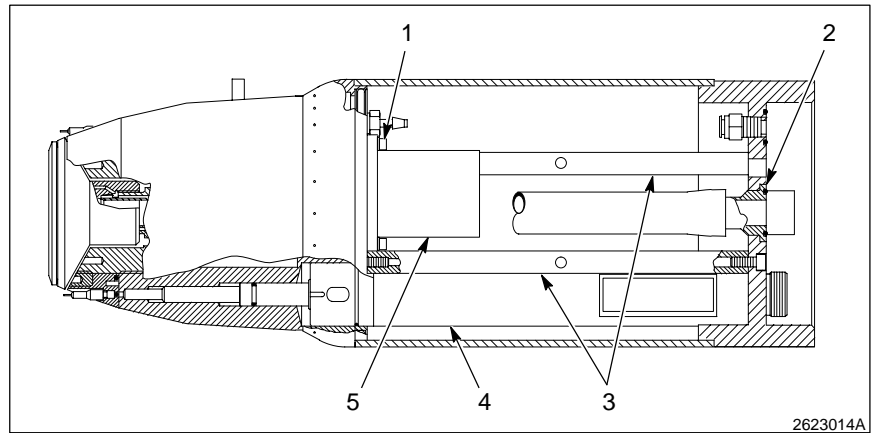
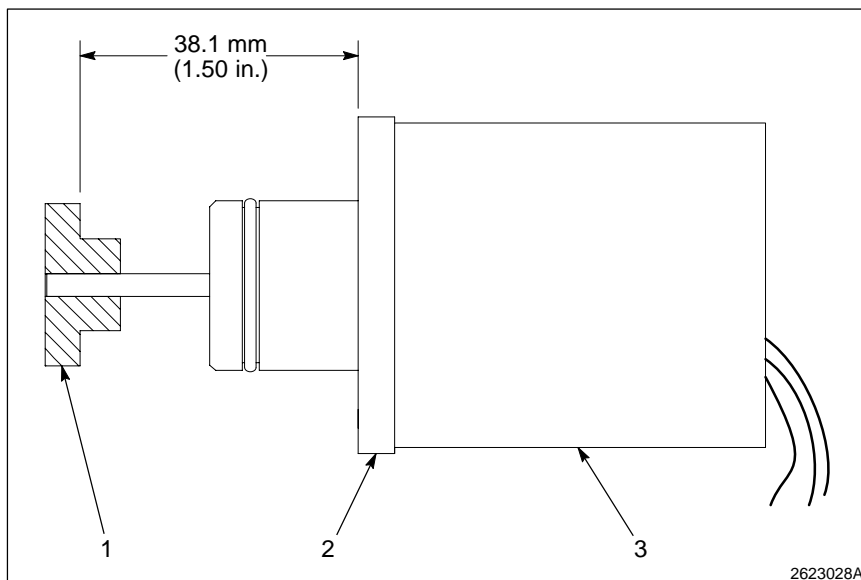
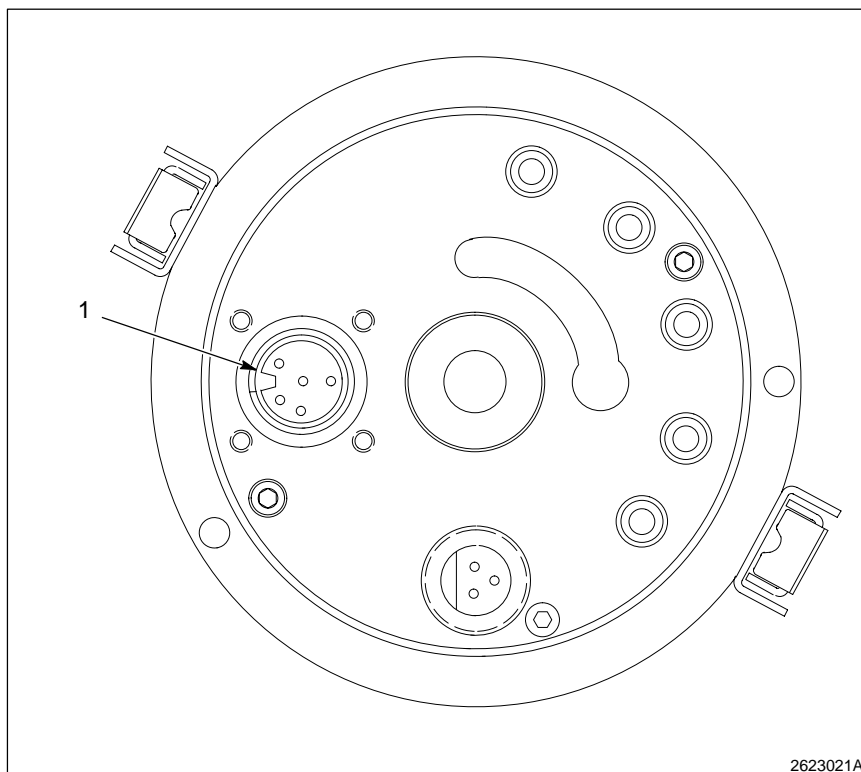

Fig. 7-5 Rear body disassembly
Fig. 7-10 Gear alignment
Fig. 7-11 Motor cable orientation
12. See Figure 7-5. Remove the multiplier (4) with a twisting motion.
13. Remove the 2 support rods (3).
14. Remove the 2 motor retaining screws (1) and ground lug.
15. Remove the motor (5) with a twisting motion.
16. Use the spanner wrench to loosen and remove the powder tube fitting (2).
4. See Figure 7-5. Carefully insert the motor (5) with its attached gear while turning the spindle so that the gears mesh. The spindle should turn freely when the motor is fully seated.
5. See Figure 7-10. If the gear (1) was removed from the motor:
- a. Make sure the motor adapter (2) and O-ring are attached to the motor (3).
- b. Attach the gear (1) to the motor shaft at a distance of 38.1 mm (1.50 in.) from the edge of the motor adapter.
6. See Figure 7-5. Attach the ground lug and the 2 motor retaining screws (1). After tightening the screws, make sure the spindle can turn freely.
7. Install the 2 support rods (3).
8. Install the multiplier (4). The square block of the multiplier should be parallel to the mounting rod.
10. See Figure 7-11. If the motor cable has been removed, install it with the key (1) pointing toward the outside of the powder bell.